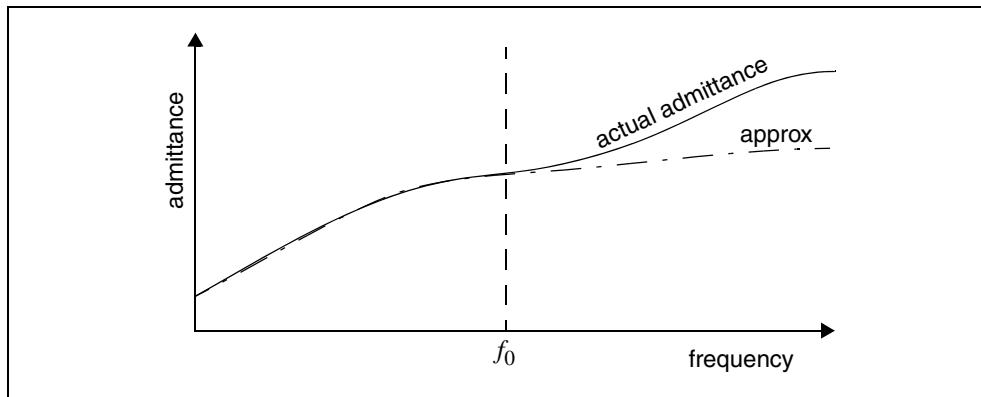

Figure 112 Multiport Admittance vs. Frequency
- The amount of reduction depends on the f_0 upper frequency, the threshold frequency where SIM_LA preserves the admittance. This is shown graphically in Figure 112.